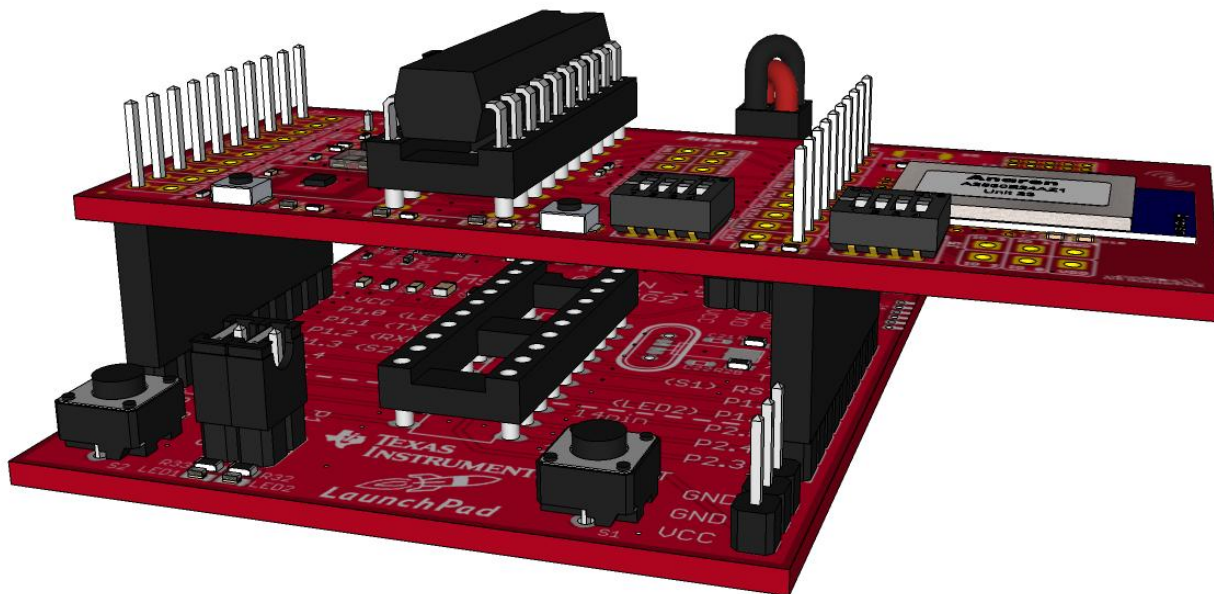

Figure 4 - Standard Installation (MSP430 on BoosterPack)
- 4) Remove the existing MSP430 device on the LaunchPad as the BoosterPack comes with a microcontroller already installed. Alternatively, the provided microcontroller may be installed in the LaunchPad's socket. In either case, only one device should be installed at any given time. See Figure 4 and Figure 5 which show the two options for MSP430 location.